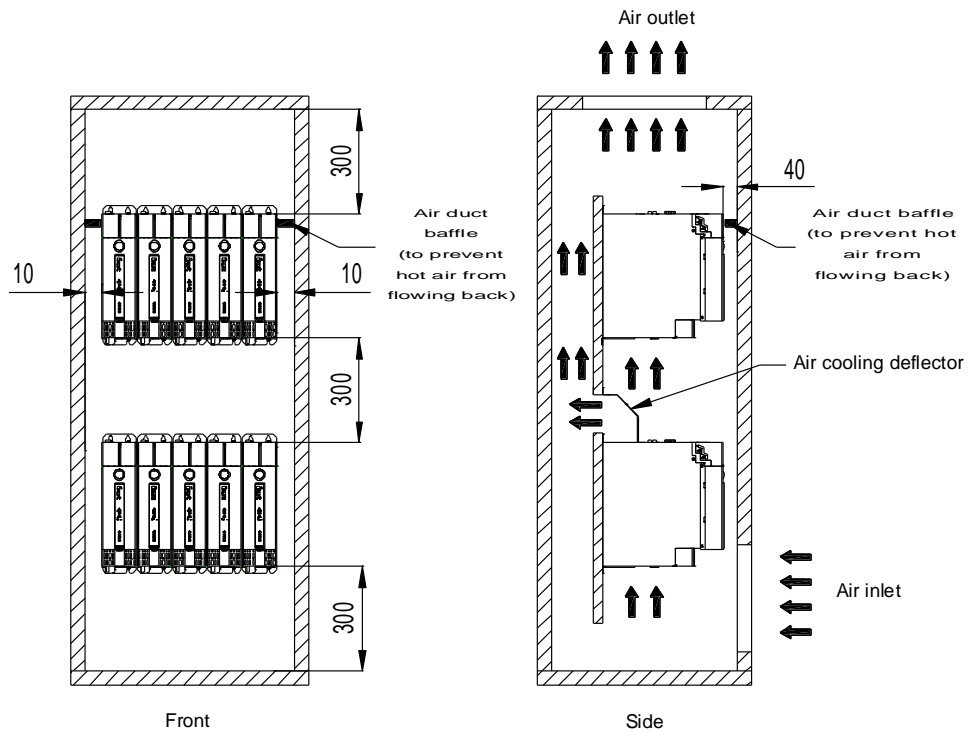

Figure 4-3 Multi-unit parallel installation clearances (the preceding sizes are the minimum, unit: mm)
- ✧ When the units need to be installed in two rows, reserve certain space around the units to ensure good heat dissipation. For details, see Figure 4-3.
- ✧ When units need to be installed in two rows, the cooling deflector must be installed. For details, see Figure 4-3.